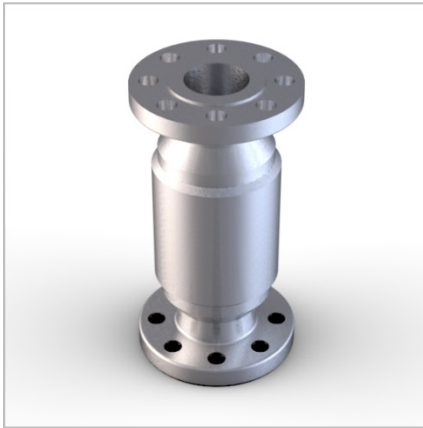

Figure 1: 2" High Flow Valve
8. Ensure gaskets are properly positioned on each end of valve before proceeding (see Figure 1).